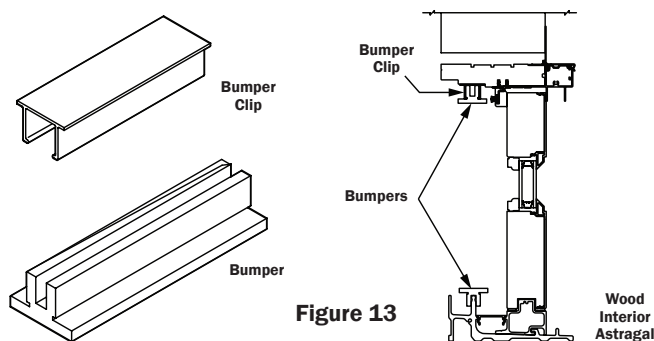

Figure 13
15. Attach the supplied bumpers to the bumper clips located on the head jamb on the stationary panel sides of the door. Apply by pressing the bumper up into the installed clip. Place the other bumpers over the roller track on the sill (Figure 13).